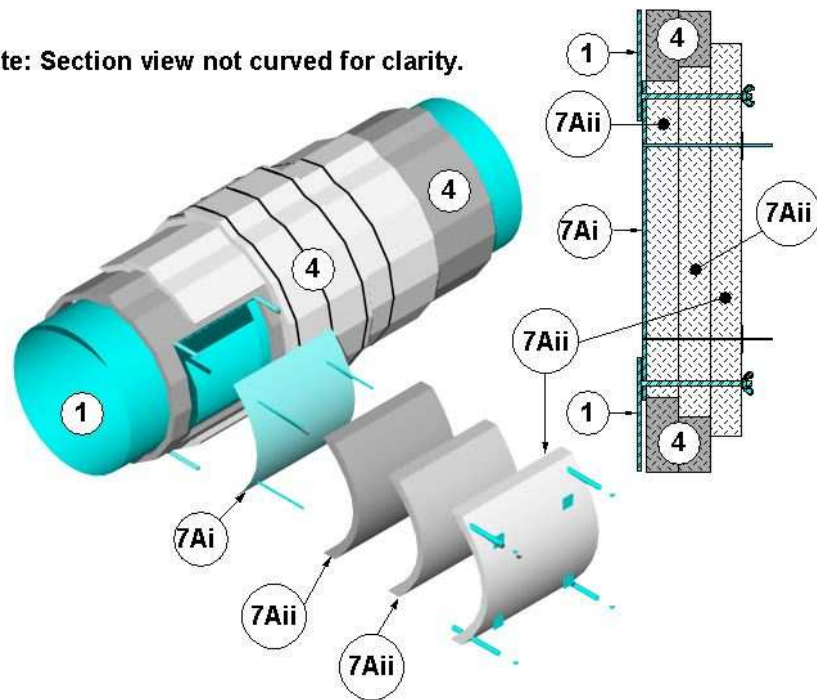

Figure 3 – Field Fabricated Access Door Option A
- 7. NONCOMBUSTIBLE² SUPPORTING CONSTRUCTION: Refer to Figures 3 and 4. Use one of the following wall or floor assemblies.